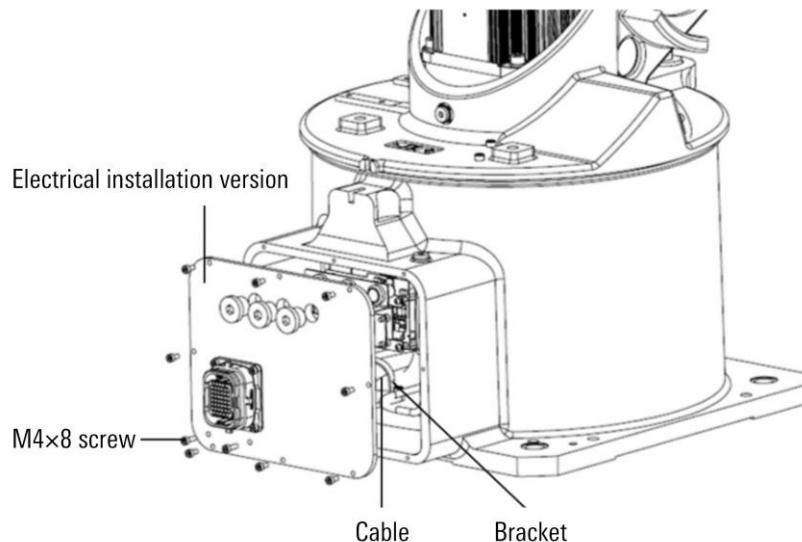

Figure 12-2 Internal cables of small heavy-duty base
- Step1. Remove the electrical installation board, as shown in Figure 12-2 and remove the internal cables from the base.